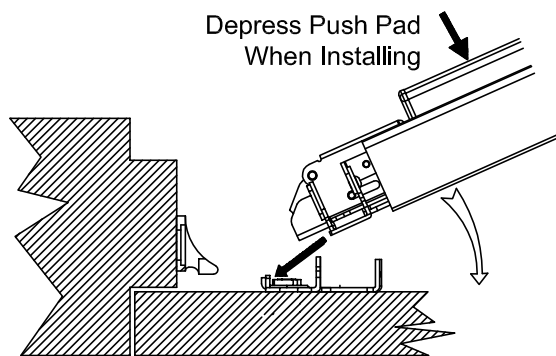

Fig. 5
2. (Fig. 5) Depress pushpad, insert centercase into slots of backplate and rotate toward door. .